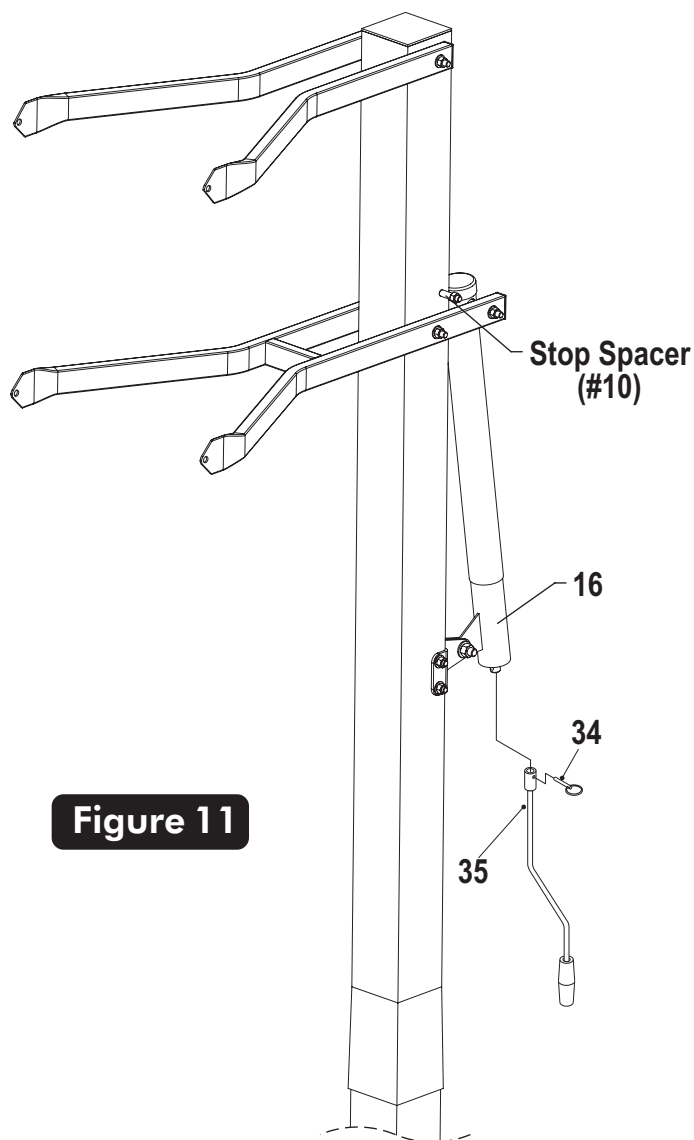

Figure 11
21. Slide Actuator Crank (#35) onto shaft on the bottom of Actuator (#16). Line up hole in shaft with hole in Actuator Crank and insert Pin (#34) to secure. See **Figure 11**.